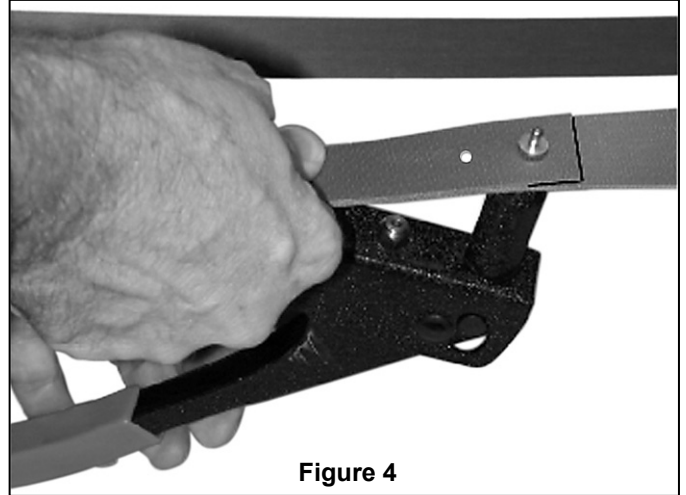

Figure 4
7. Connect the yellow/green grounding lead from the fan motor to the supply grounding conductor (this may be a yellow/green colored insulation). (Figure 4)
8. Make wiring connections to terminal block as shown. (Figure 4)